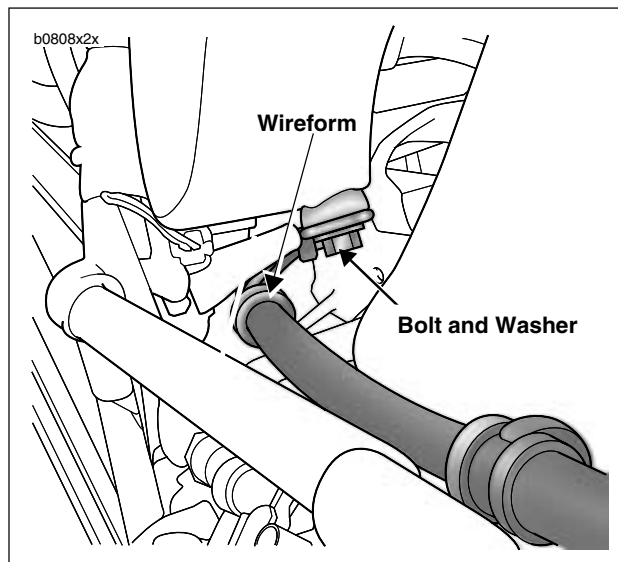

Figure 2-48. Rear Brake Line Wireform
5. See Figure 2-48. Remove bolt, washer, wireform and brake line from under oil tank.
- See Figure 2-48. Attach the wireform under the oil tank with bolt and washer.